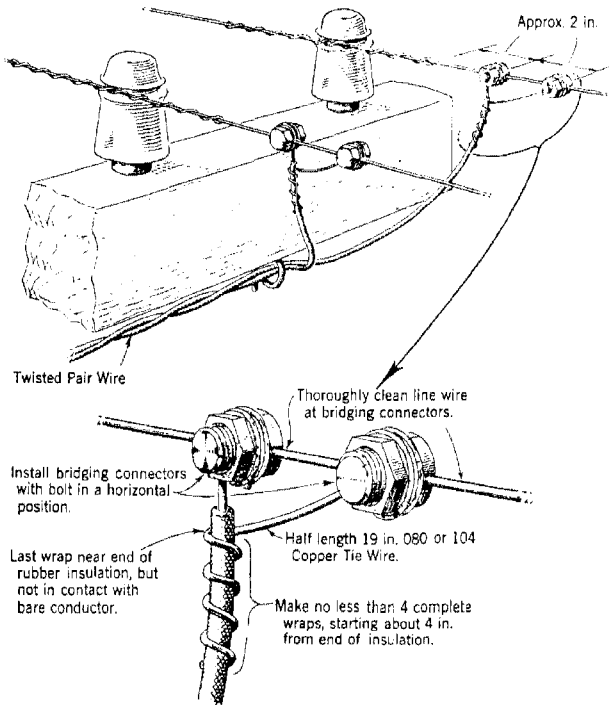

Fig. 15 – Tie Wire Extended to Additional Bridging Connectors
- (1) Provide a sufficient length of twisted pair wire to extend from the 101B terminal to the bridging connectors.
- (2) Extend bridle wire directly from last drive ring to bridging connectors without making any wraps around the line wire, and connect each conductor to bridging connector installed with the bolt in a horizontal position.
- (3) Starting approximately 4 inches from bridging connector, make at least four spiral wraps of a half-length of 19-inch 080 or 104 copper tie wire around each bridle conductor in the direction toward the bridging con-
- (4) Extend tie wire to an additional bridging connector as illustrated in Fig. 15.